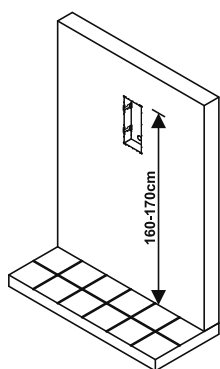

Fig. 46
1. It is recommended that the flush box (C) is mounted into the wall approximately 165-170cm between the top of the box and the floor level as shown in **Fig.46**.